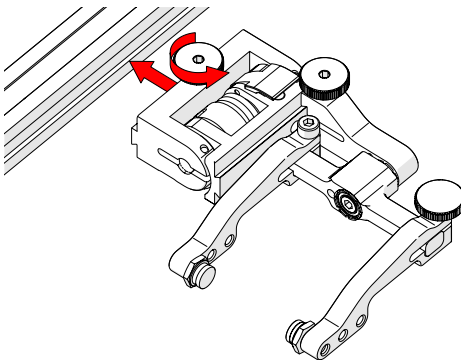

Fig. 102 - Attach to frame bar
1. Rotate the probe holder adjustment knob and attach the probe holder to a frame bar (Fig. 102).